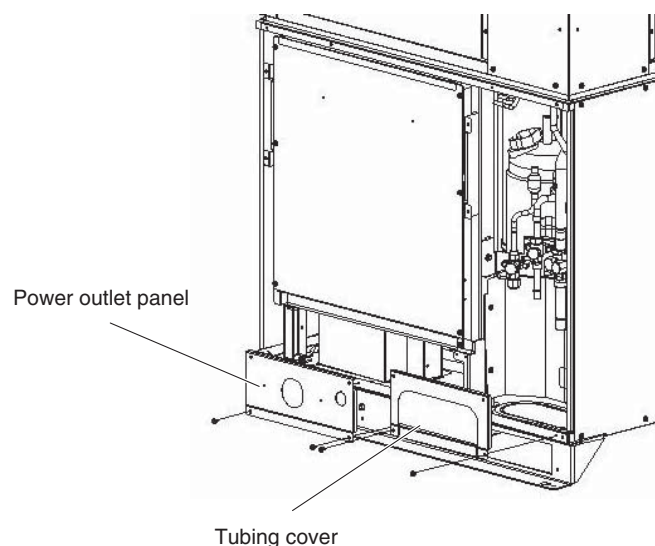

Fig. 2
(2) Power outlet panel & valve cover removal (Fig. 2)